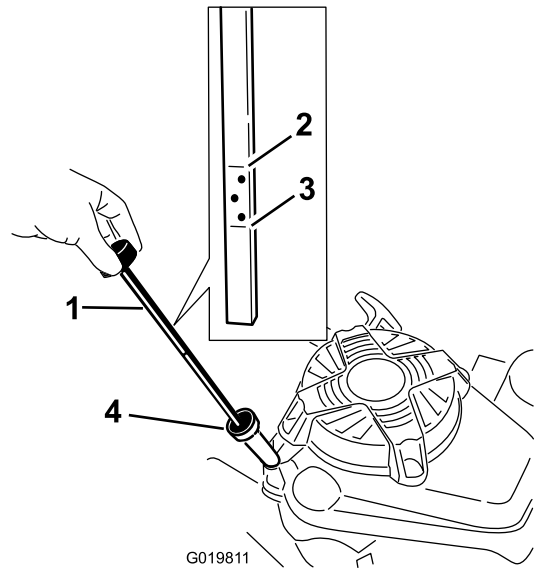

Figure 6
3. If the crankcase is empty, add about 3/4 of the crankcase capacity of oil into the oil-fill tube (Figure 6).
6. Read the oil level on the dipstick (Figure 6).